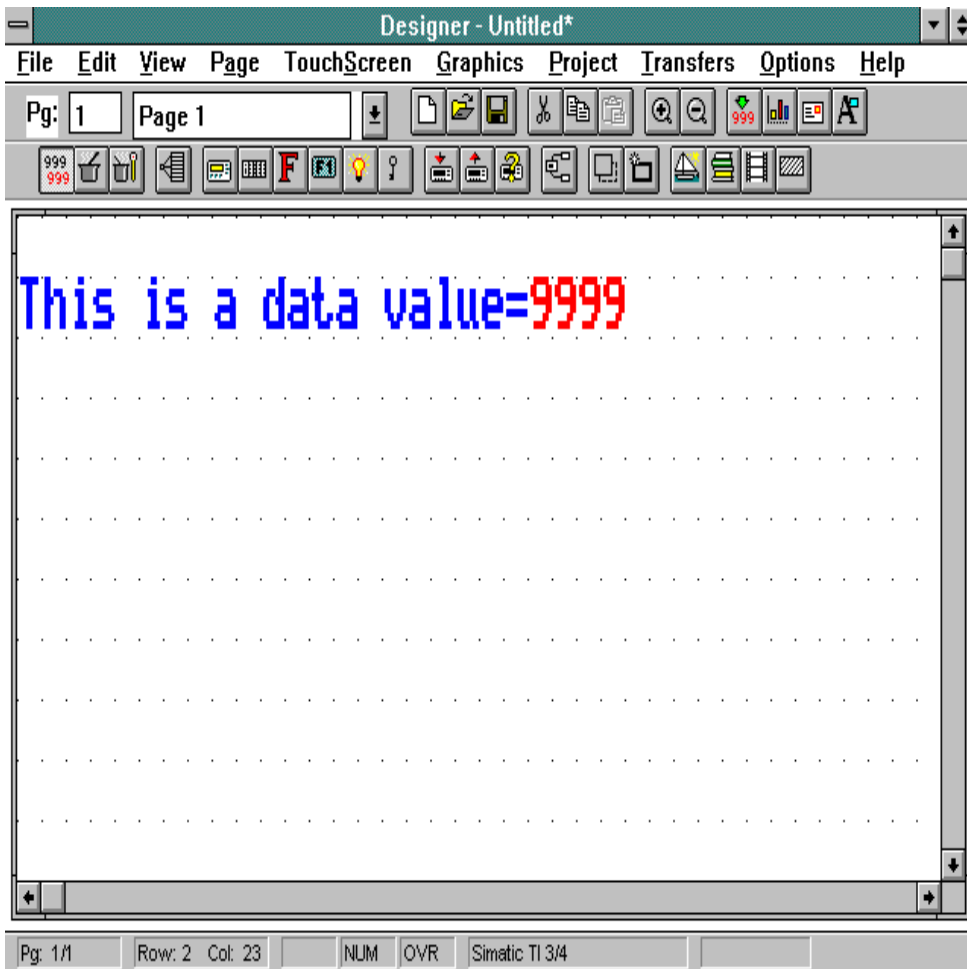

Figure 2-6
- STEP 13 Click on the OK button in order to confirm the operation and create the field (see Fig. 2-6).
Figure 2-6 shows what the user's computer screen should resemble once step 13 is completed.